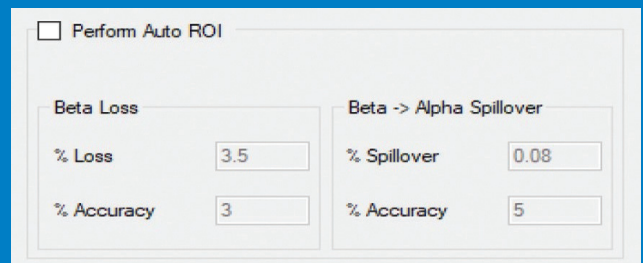

Figure 3. Automatic ROI Setup
- **Plateau:** The software accommodates multi-detector system drawers that share a common high voltage power supply to perform plateau counts concurrently when multiple sources are used for a plateau (Figure 3). Alternatively, results from separate plateau counts from detectors within the same drawer can be combined into a single plateau measurement to determine the optimum operating voltages.
- **Alpha and Beta Regions of Interest:** Users can manually adjust the alpha and beta discriminators or automatically (Figure 3) optimize the levels for an ideal counting compromise between spillover and efficiency.